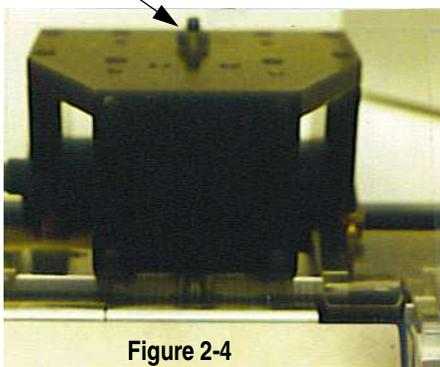

Figure 2-4
3. Then fine adjust the location shuttle adjustment base by turning the set screw on the edge of the stop block located to the right. Hold the connector against the shuttle blade while making adjustment. Turning the set screw "in" moves the connector to the right and "out" moves it to the left. See Figure 2-4.